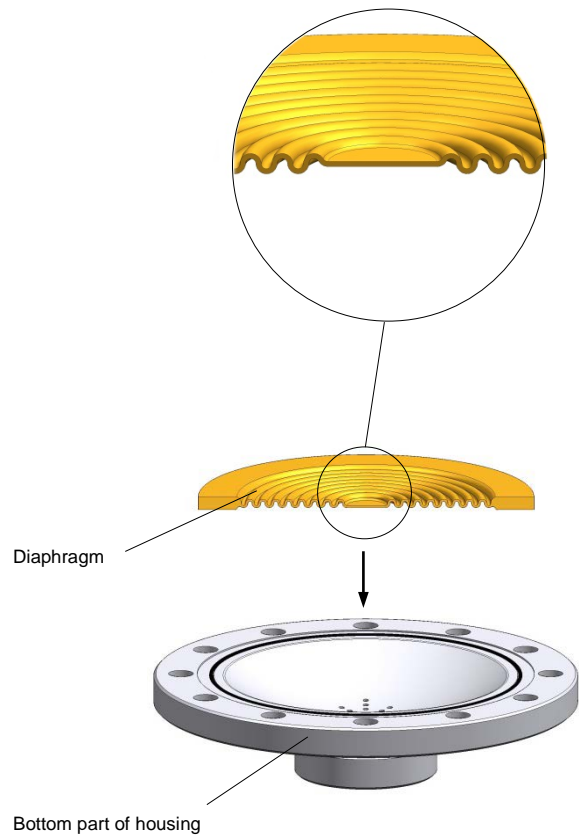

Fig. 30 Changing the diaphragm (type 1.4571)
- Insert new diaphragm with the curvature pointing downward (in case of pulsation dampers made of 1.4571 with PTFE diaphragm) (see Fig. 30).